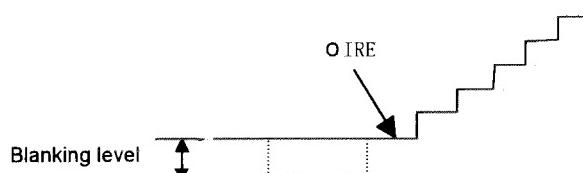

Fig. 3
- (7) Adjust **Pedestal level** to the blanking to the same level as 0 IRE (Fig. 3).